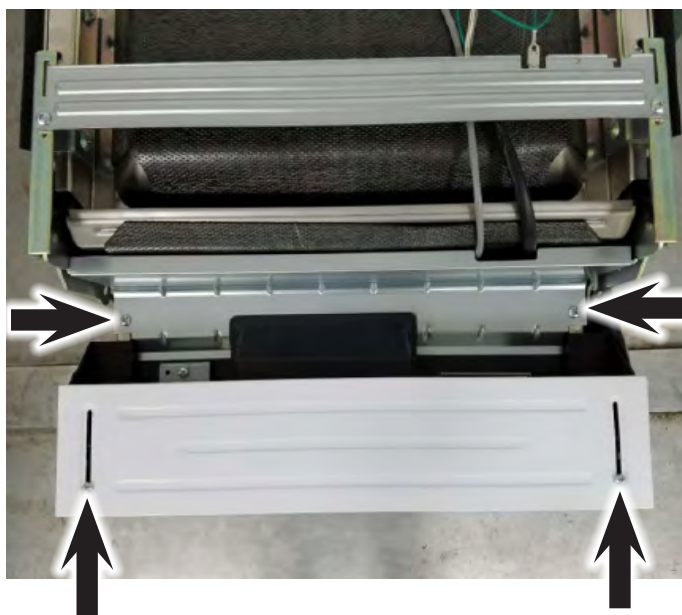

Figure 1
2. Remove the two (2) screws on the kick board (toe panel). See Figure 1.
3. Remove the two (2) screws on insulating panel (see Figure 1).